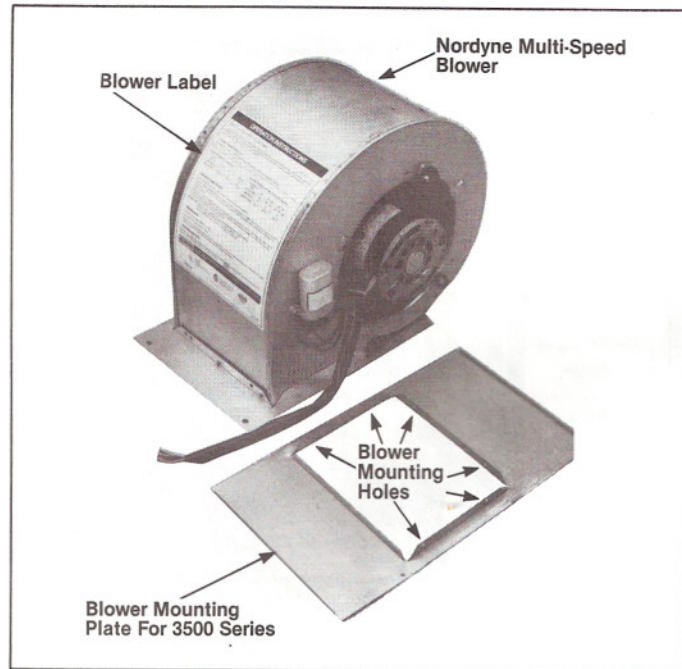

Figure 7. Multi-Speed Blower
4. Prepare NORDYNE multi-speed blower #901282 (See Figure 7):
- a) Attach the Blower Mounting Plate to the blower housing. Secure the plate at the **sides** of the blower housing using the four (4) screws supplied with the blower.